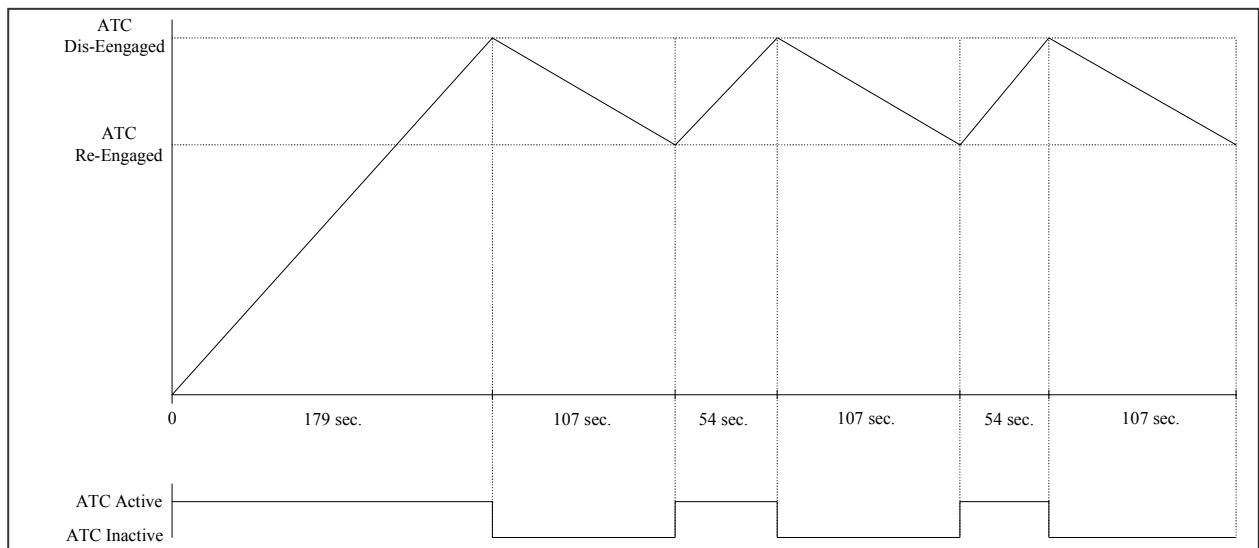

Figure 16 ATC Brake Fade Timing
- To avoid overheating of the brakes when brake control is active. Figure 16 ATC Brake Fade Timing shows an example with the default parameter setting.